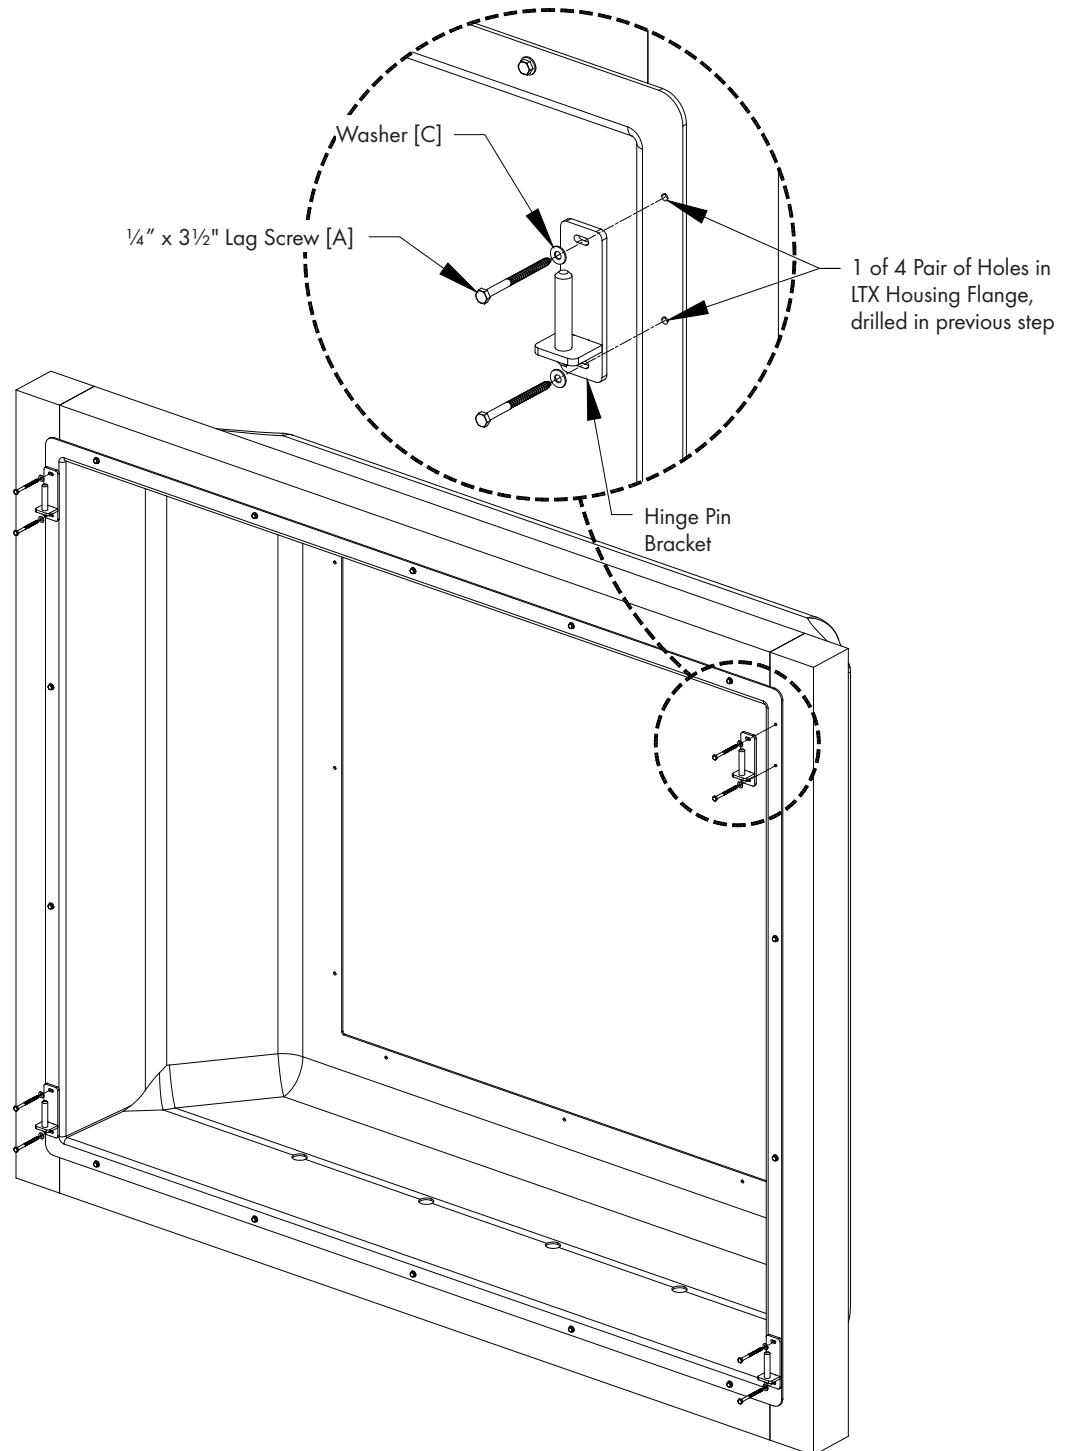

Figure 4
Attach 4 Lift-Off Style Hinge Pin Brackets [J] to the flange of the LTX Housing mounting holes drilled in the previous step, using (2) Lag Screws [A] and Washers [C]. *See Figure 4.* Make sure the Pin is facing up.